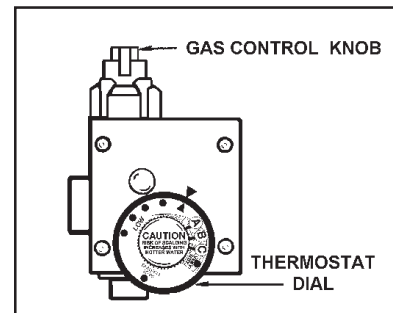

FIGURE 22.
**HOTTER WATER CAN SCALD:** Water heaters are intended to produce hot water. Water heated to a temperature which will satisfy clothes washing, dish washing, and other sanitizing needs can scald and permanently injure you upon contact. Some people are more likely to be permanently injured by hot water than others. These include the elderly, children, the infirm, or physically/mentally handicapped. If anyone using hot water in your home fits into one of these groups or if there is a local code or province law requiring a certain temperature water at the hot water tap, then you must take special precautions. In addition to using the lowest possible temperature setting that satisfies your hot water needs, a means such as a mixing valve, shall be used at the hot water taps used by these people or at the water heater. Mixing valves are available at plumbing supply or hardware stores, see Figure 8 on page 9 and Figure 15 on page 13. Valves for reducing point of temperature by mixing cold and hot water are also available. **Consult Maytag Customer Service (1-800-788-8899)**. Follow manufacturer's instructions for installation of the valves. Before changing the factory setting on the thermostat, see Figures 22 and 23. Using the lowest hot water temperature that meets your needs will also provide the most energy efficient operation of the water heater.